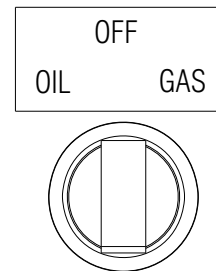

Fig. 35
- fuel selector switch in "**GAS**" position (Fig. 35).